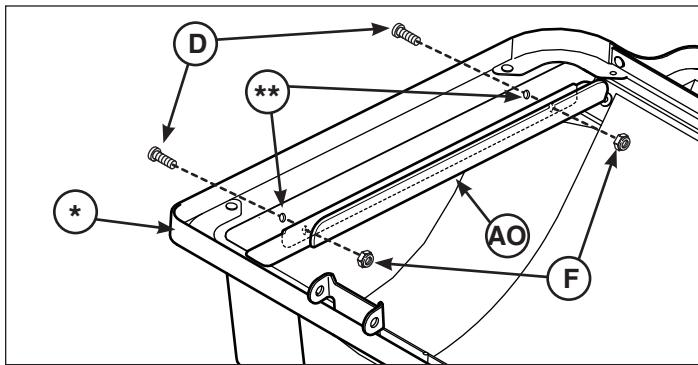

Figure 28
1. Hold deflector plate (**AO**, Figure 28) in cover (*) and mark new hole locations using deflector plate as a guide. Use Figures 28 and 29 as a reference to determine correct hole locations.